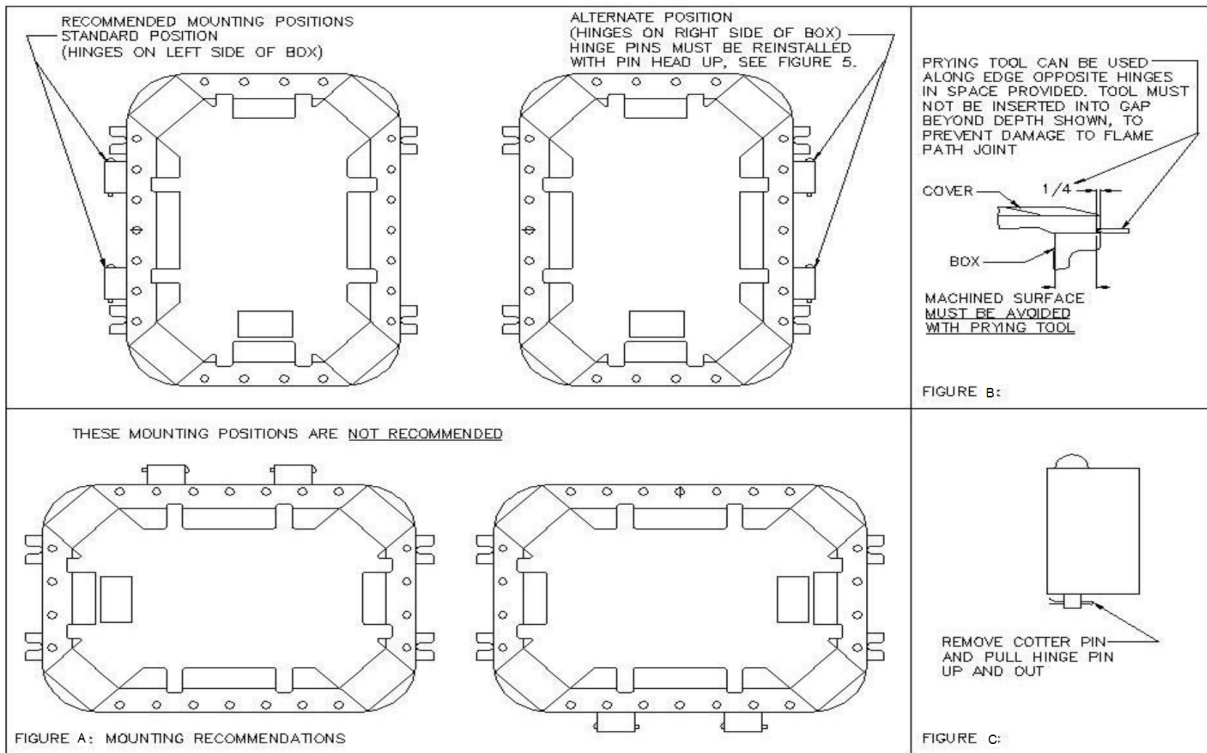

Figure 12: Mounting Recommendations
WARNING! Do not use hammer, screwdriver or any prying tool to open cover, except as shown in Figure 12(B) on page 7.